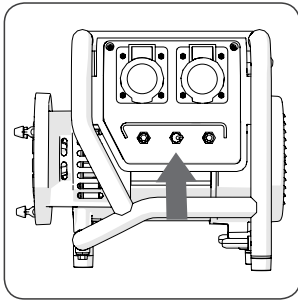

Fig. 2 (UK Professional version shown)
- If applicable select the voltage required by setting the selection switch to 230V or 110V. **(Fig. 2)**